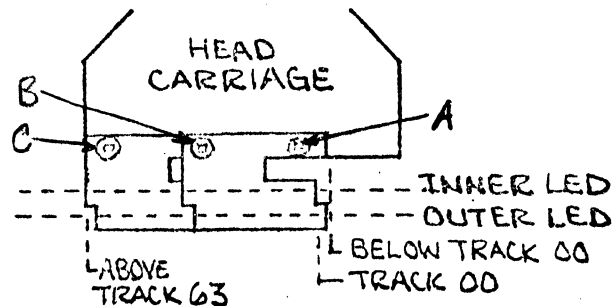

Figure 7-20. Position Adjustment
- o. If TRACK 00 indicator is not lighted, loosen set screws "A" and "B" on head carriage (Figure 7-20) and adjust slide until TRACK 00 indicator lights.
- u. If ABOVE TRACK 63 indicator is not lighted, loosen set screws "B" and "C" (Figure 7-20) and adjust slide until indicator lights.
- c. Remove set screws "A" and "C" (Figure 7-20).